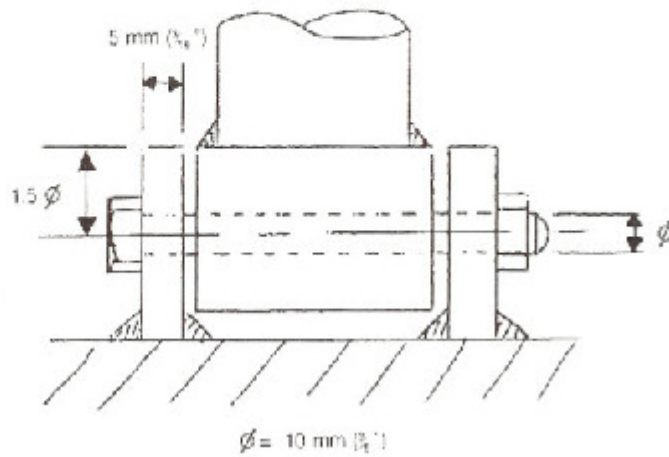

Fig 4.
- d. A twin lug connection with axis working under double shearing conditions (Fig. 4).
- a. The twin lug connection (Fig. 4).